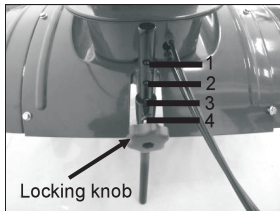

Fig. 13
1. Loosen the locking knob. (Fig. 13)
2. Align the hole on the regulator and adjustment the depth (4 positions). The deepest position (position 1), the shallowest position (position 4). (Fig. 13)